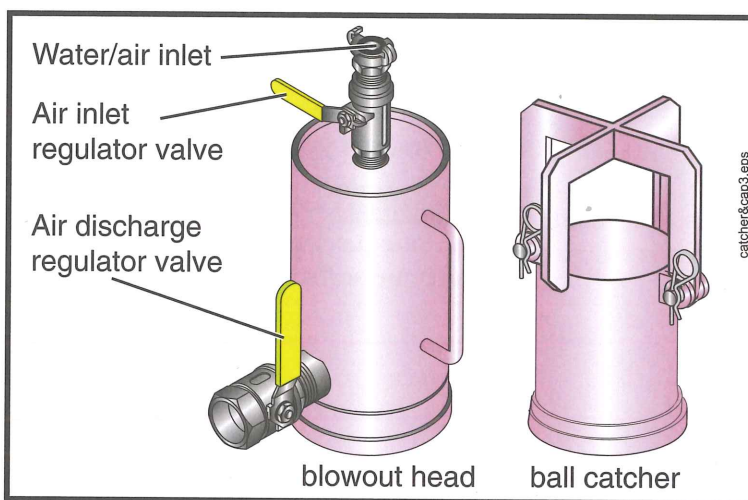

Figure 4
- A hose that is rated for the pressure of the air compressor you will use and that is able to connect with both the air compressor and the blowout head. The hose must be in good working condition and must be free of cracks, frays, tears or other damage. Do **NOT** improvise on this. **Make sure** you have the right part (Figure 4).